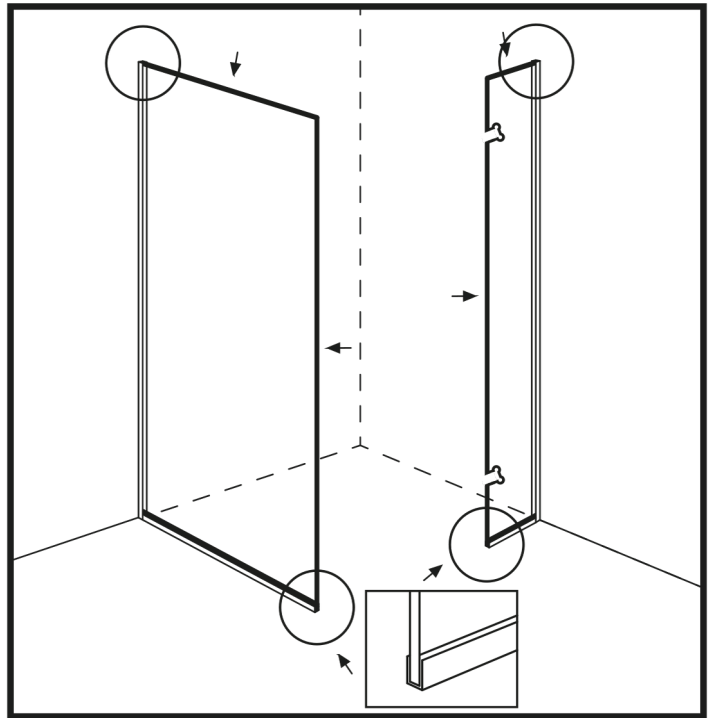

Figure 6
17. Place the glass panels between the U-profiles and press them both towards the wall and downwards so that the silicone adheres to the glass. (Figure 6)